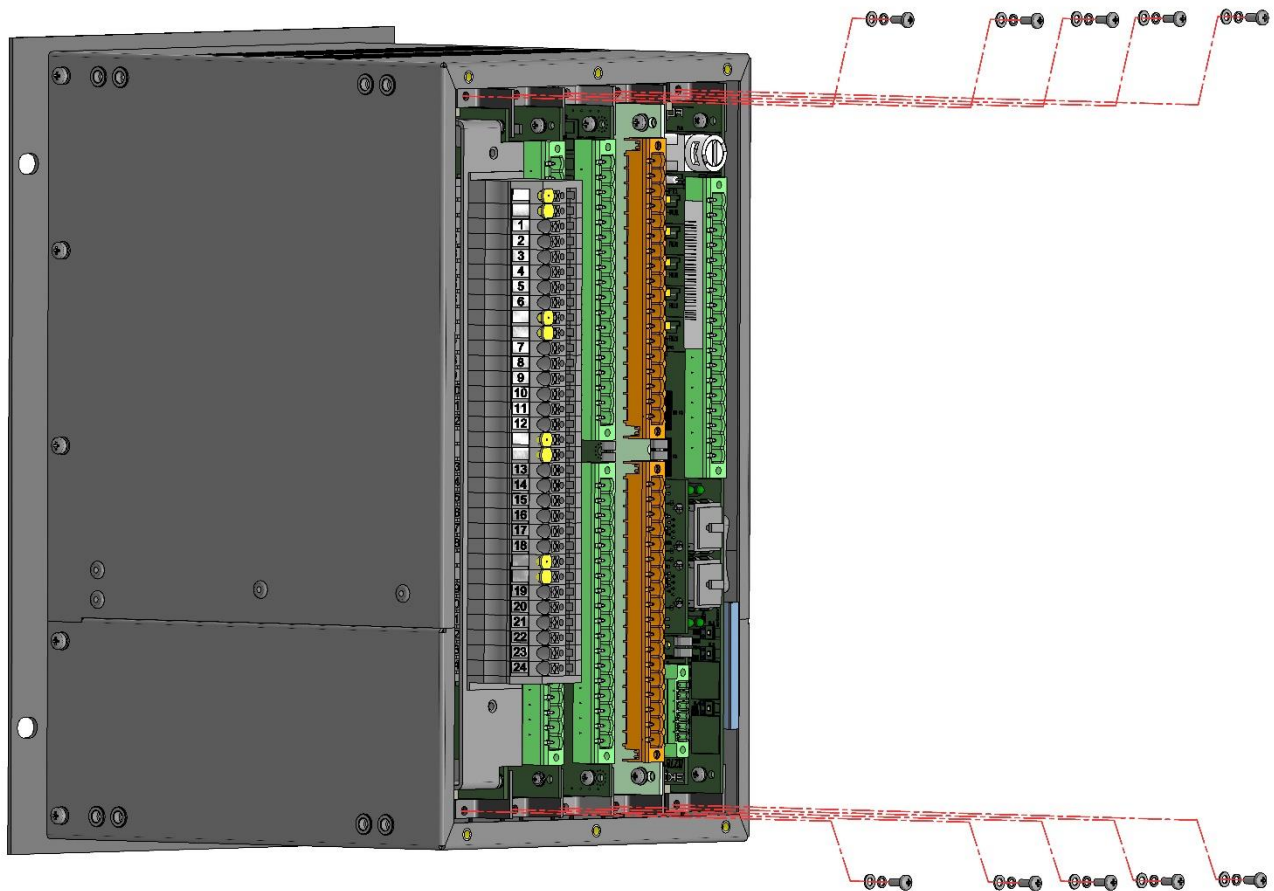

Figure 120 – Location of screws securing modules inside the device
13.5.1.5 Remove the two screws securing the required module. One screw is at the top of the module, the other – at the bottom (figure 120).